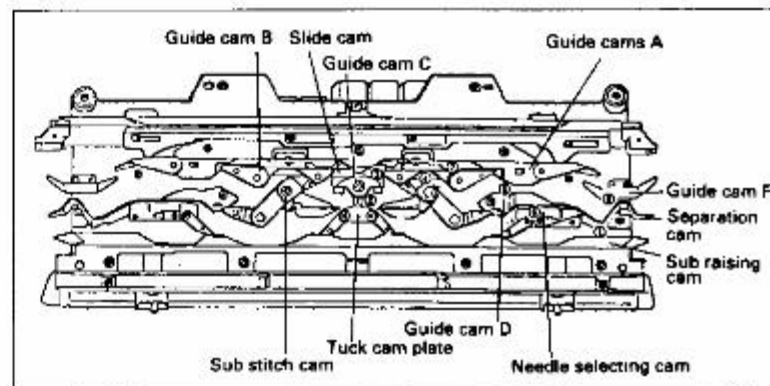

Fig. 5-1
11. Make sure that the needle butt passes smoothly through the following. (Fig. 5-1)